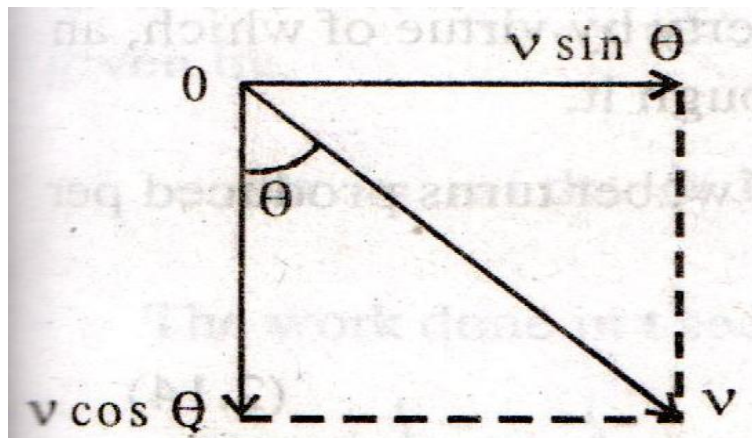

Fig:1.2.8(b) Changing angle θ
3. When the conductor moves in the direction III, of making an angle θ , with the direction of magnetic lines of flux with the velocity v , the component of velocity perpendicular to the direction of flux is $v \sin \theta$, as shown in fig 1.2.8 (b). Hence, the emf induced in the conductor is $B l v \sin \theta$